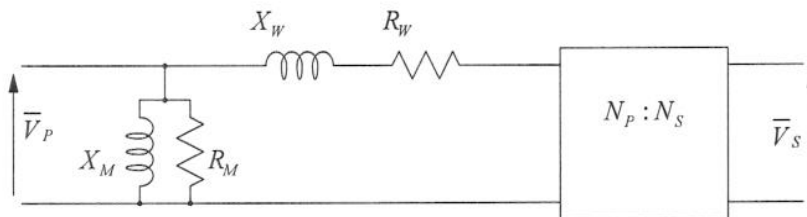

Figure Q4
4. A transformer has been designed as a step-down transformer for use in a 50 Hz distribution system. The design equations indicate that the following parameters will apply to the approximate equivalent circuit shown in figure Q4.
(a) For the equivalent circuit in Figure Q4: